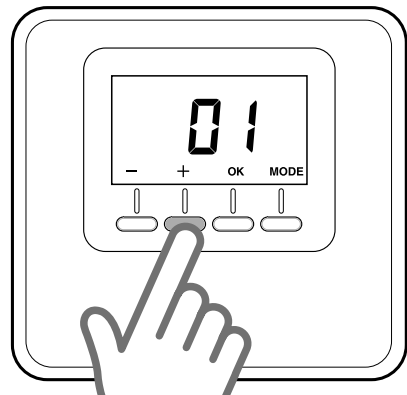

Fig. 16
- Press “+” and “-” to select the zone you wish to associate (Fig. 16).